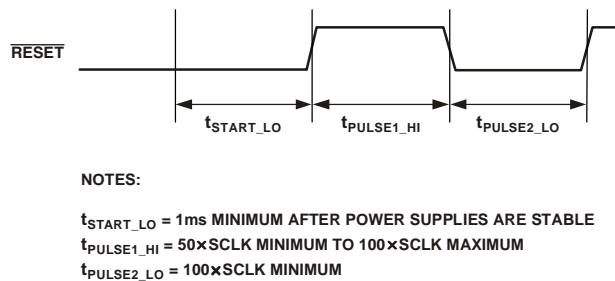

Figure 4. Power-up Reset Waveform
- **Power-up reset**—After power-up of the system, and strap options are stable, the  $\overline{\text{RESET}}$  pin must be asserted (low) for a minimum of 1 ms followed by a deasserted (high) pulse of a minimum of 50 SCLK cycles and a maximum of 100 SCLK cycles and asserted (low) for a minimum of 100 SCLK cycles.  $\overline{\text{TRST}}$  must also be asserted (low) during power-up to ensure proper operation of the device. See Figure 4.